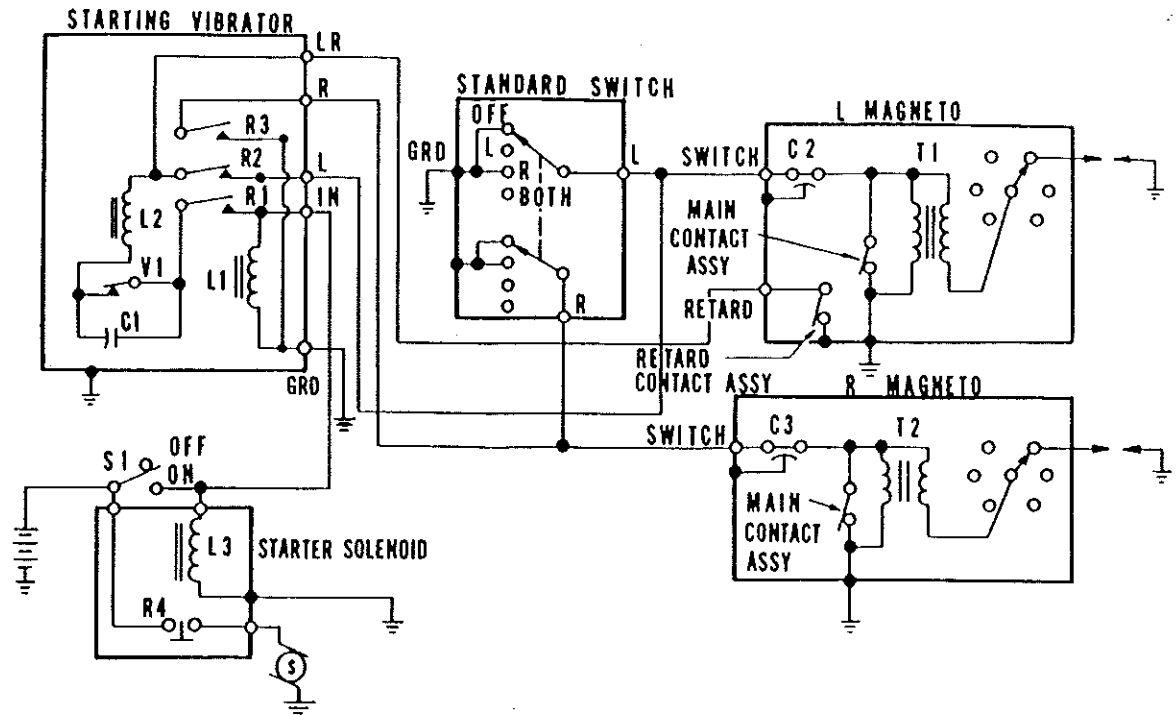
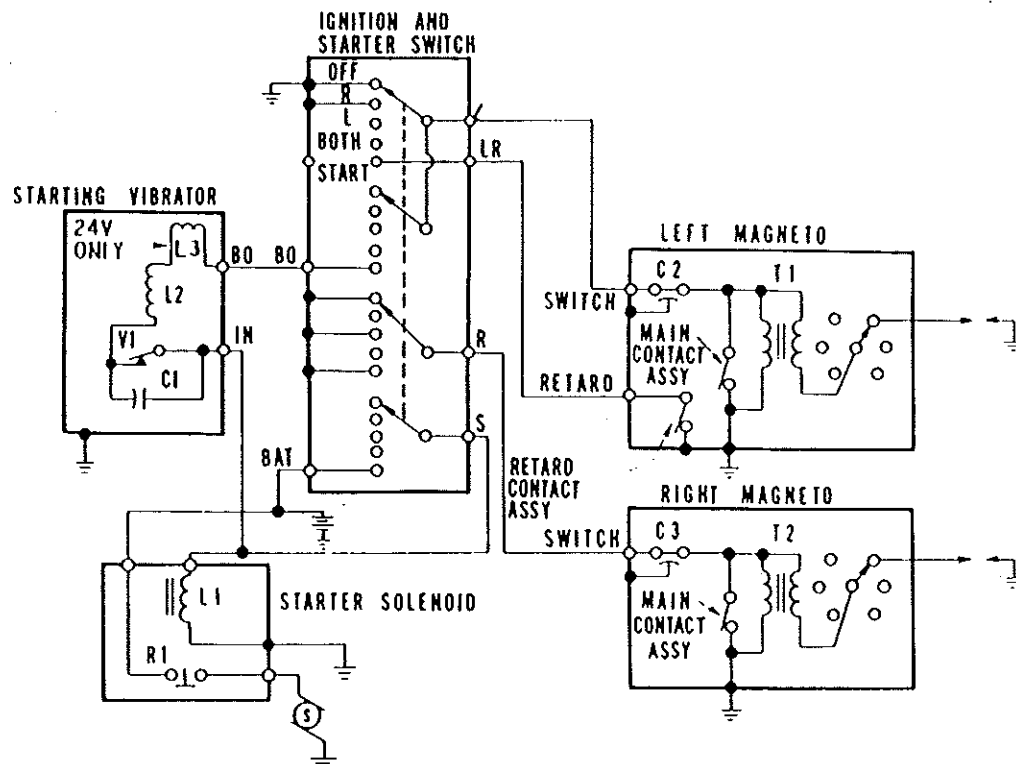

Figure 203. Schematic Diagram of Magneto Circuit and Starting Vibrator Incorporating Relay
Figure 204. Schematic Diagram of Magneto Circuit and Starting Vibrator Without Relay
- A. Schematic diagrams of the magneto hookup with and without a relay in the starting vibrator are shown in Figures 203 and 204. In Figure 203, the starting vibrator consists of a vibrator and a relay. The starting vibrator with the relay supplies interrupted battery current to the retard contact assembly magneto and grounds the right magneto. This vibrator is used with a standard ignition and starter switch. Figure 204 shows a starting vibrator which does not incorporate a relay. This type of vibrator should be used with one of the TCM combination ignition and starter switches which controls the vibrator current flowing to the retard contact assembly magneto. In Figures 203 and 204, all switches and relays are shown in their normal OFF position. These diagrams are to be used for following the electrical operation of the magneto circuit and *not for installation purposes.*
- B. With the standard switch in its "BOTH" position (Figure 203) and starter switch S1 turned "ON" starter solenoid L3 and coil L1 are energized closing their relay contacts R1, R2, R3 and R4. Relay contact R3 connects the right magneto to ground, rendering it inoperative during starting procedures. Battery
- E. With the combination ignition and starter switch in its "START" position, the right magneto is grounded (refer to Figure 204). Starter solenoid L1 is energized, closing its relay contact R1. Battery current flows through vibrator points V1, coil L2 (and L3 in 24 volt models), through the switch and through main and retard contact assemblies of the left magneto to ground. The magnetic field built up around coil L2 causes vibrator points V1 to open. Current flow ceases through coil L2 causing the magnetic field to collapse and the vibrator points to reclose. This allows coil L2 (and L3 where applicable) to energize and vibrator points V1 to again open. When the engine reaches its normal advance firing position, the main contact assembly opens. However, the vibrator current is still carried to ground through the retard contact assembly, which does not open until the starting retard position of the engine is reached. When the retard contact assembly opens (main contact assembly is still open), the vibrator current flows through the primary of transformer T1, producing a magnetic field around the coil. Each time vibrator points V1 open, current flow through the primary of transformer T1 ceases. This causes a high voltage to be induced in the secondary, which fires the spark plug. A shower of sparks is thus produced at the spark plug due to the opening and closing of vibrator points V1 while the main and retard contact assemblies are open.